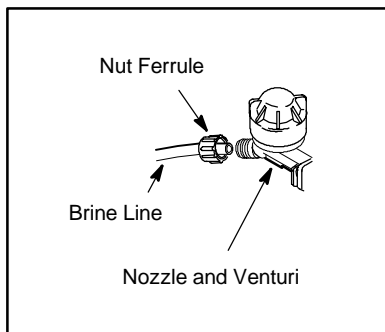

Figure 1
3. Loosen the nut ferrule and remove brine line from the end of the nozzle and venturi assembly (**Figure 1**).
7. Run the brine line on the new float valve through the salt tank and attach the brine line with nut ferrule to nozzle and venturi assembly (**Figure 1**).
8. Hand tighten nut ferrule onto the end of the nozzle and venturi assembly (**Figure 1**).